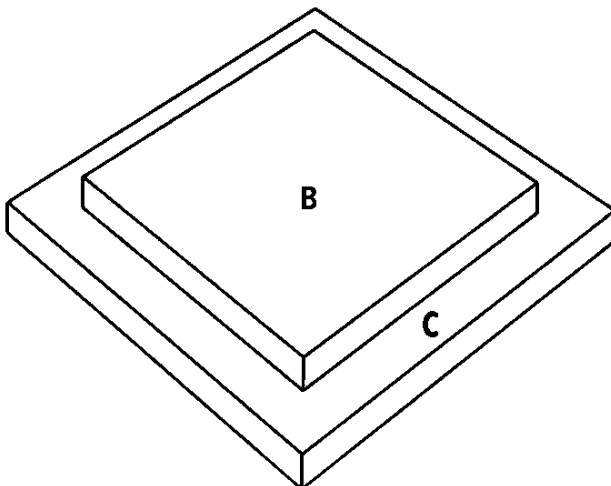
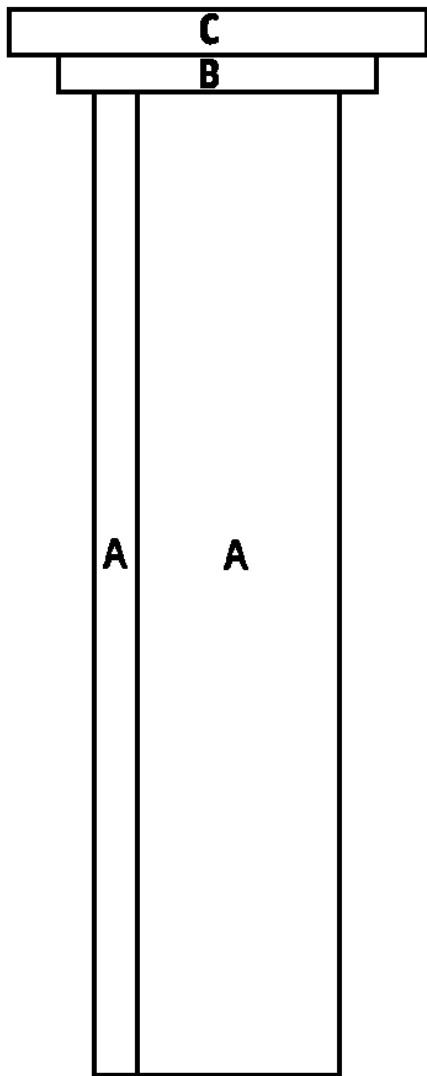

Figure 2
Figure 3
3. Cut four Small Bases (B) from 1 x 6 pine each measuring 5-1/2 inches.
4. Cut four Large Bases (C) from 1 x 8 pine each measuring 7-1/4 inches.
5. Center one Small Base (B) over one Large Base (C) as shown in *Figure 2*. Apply glue to the meeting surfaces, and nail the two pieces together using four 1-1/2" finishing nails.
6. Repeat Step 5 three more times, using the remaining Small Bases (B) and Large Bases (C).
7. Center one base assembly (B and C) on top of one leg assembly, as shown in *Figure 3*. The Large Base (C) should be facing up with the small base (B) below it. Apply glue to the meeting surfaces, and attach the base assembly to the leg using four 2" finishing nails.